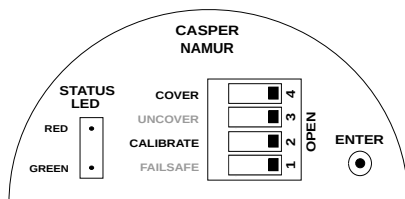

Figure 59: Saving Calibration
- Set the CALIBRATE and COVER switch back to OPEN position as shown in Figure 59.
- Open the housing cover and set the CALIBRATE and COVER switch back to OPEN position as shown in Figure 59.